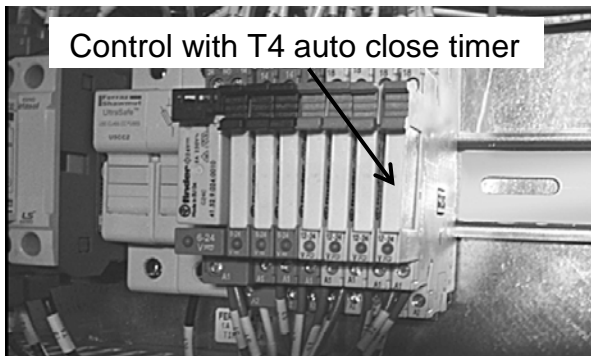

Figure 40
1. The timer function allows the door to close automatically after a predetermined time. (See Figure 40 & 41)